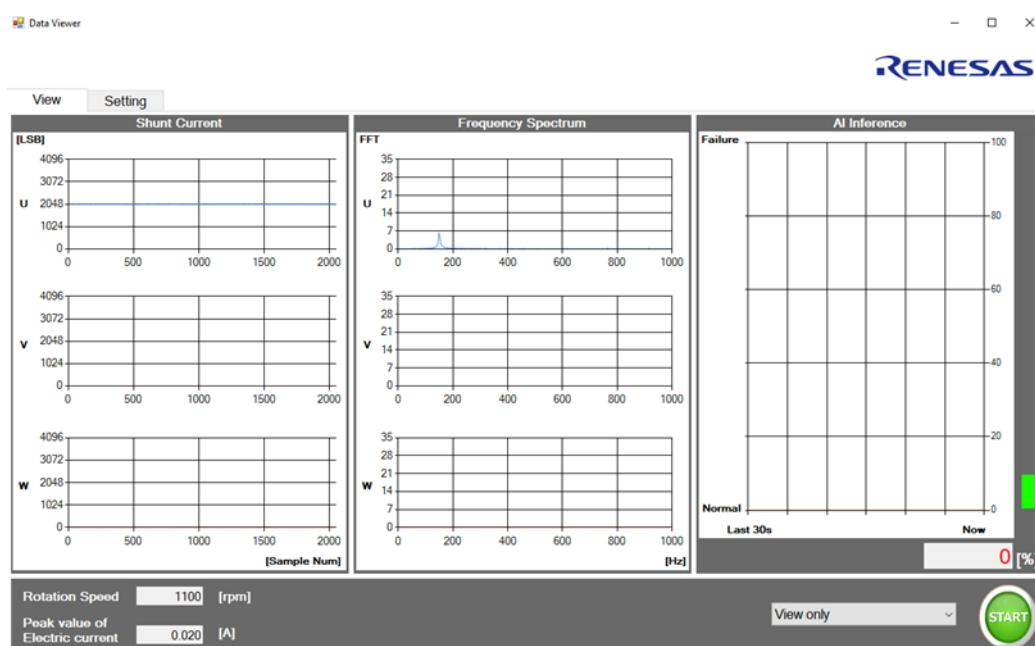

Figure 12. Data Collection Tool display
- Figure 12 shows the results of RX24U demo.